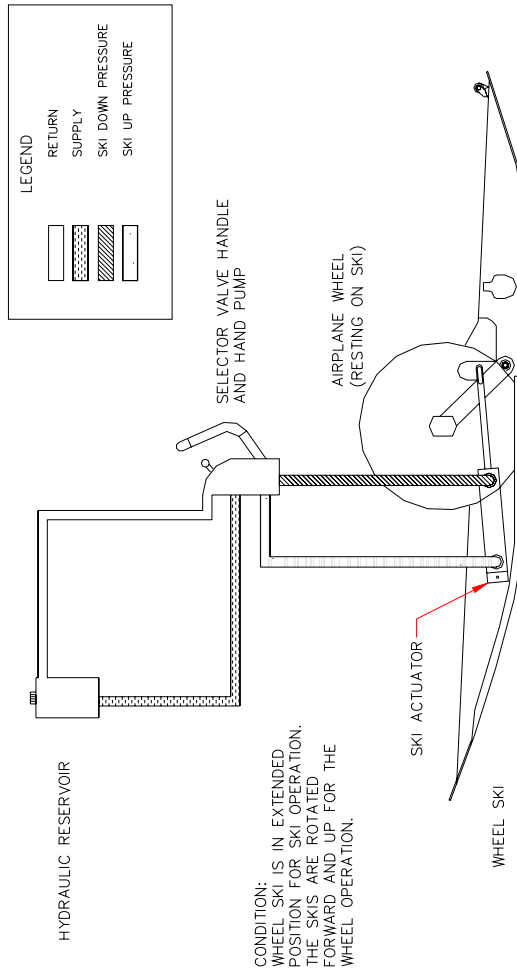

Figure 5 Ski Installation
4. Hydraulic system to support the retractable main wheel skis (Figure 5).